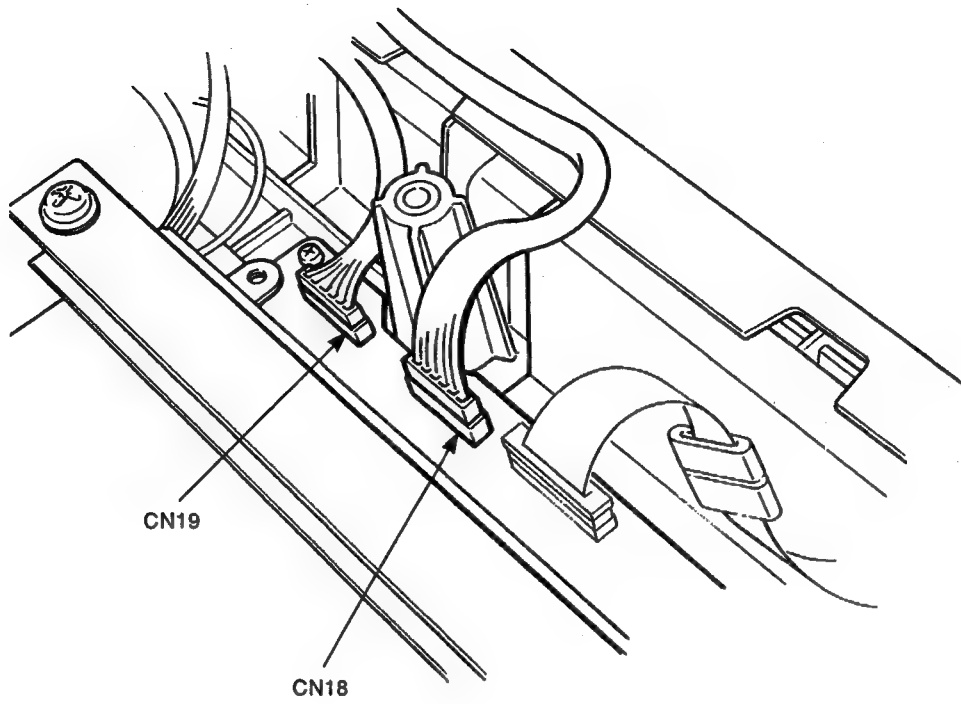

Figure 3-41 Motor Connectors
6. Disconnect CN18 and CN19 from the mother board (see Figure 3-41).